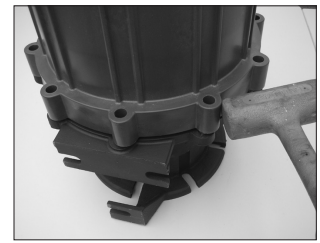

Figure 35
Using uniform pressure, press the housing into place until it is flush with the motor adapter. Rotate the housing if necessary to line up the bolt holes in the housing with the bolt holes in the motor adapter. Tap lightly with a soft mallet if necessary. See figure 35. Install the housing bolts, lock washers and flat washers (items 15, 16, 17).